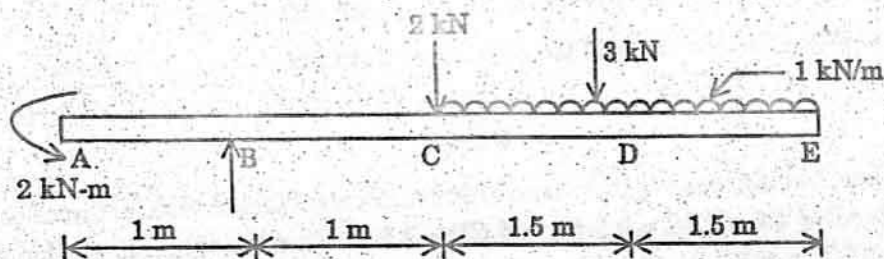

Fig. 4
- (b) Draw SFD and BMD for the beam shown in Fig. 4. Indicate the position and the magnitude of maximum bending moment.
- (b) Fig. 4 shows the cross-section of a cantilever beam of 2.5 m span. Material used is steel for which maximum permissible stress is 150 N/mm^2 . What is the maximum uniformly distributed load this beam can carry?